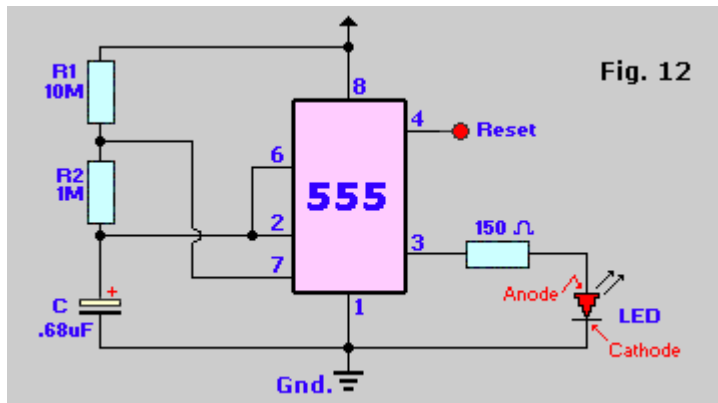
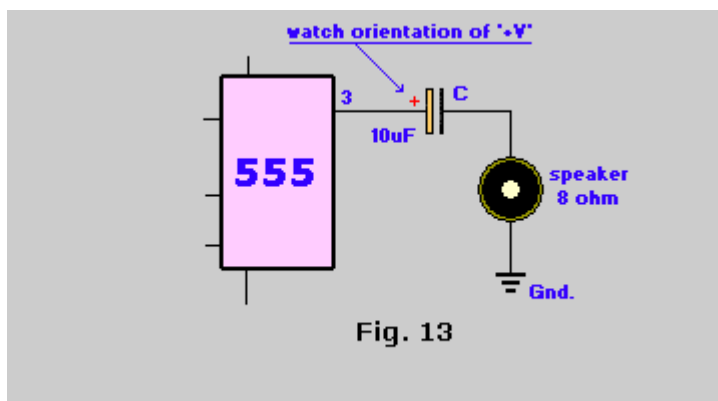

Fig. 12
Fig. 13
12. Next you will experiment with astable circuits. First, rewire the circuit it appears as shown in Fig. 12.
17. Rewire the circuit making R1 and R2 10,000 ohms and C equal to 0.1uF. Use the same circuit in Fig. 12. But, replace the LED and its resistor with a speaker and capacitor as shown in Fig. 13.
Fig. 12, Recording Beep: This circuit is used to keep recording of telephone conversations legal. As you may know, doing otherwise without consent of the other party is illegal. The output of IC1 is fed to the 2nd 555's pin 3 and made audible via C2 and the speaker. Any 8-ohm speaker will do.
Fig. 13, Coin Toss: Electronic 'Heads-or-tails' coin toss circuit. Basically a **Yes** or **No** decision maker when you can't make up your mind yourself. The 555 is wired as a Astable Oscillator, driving in turn, via pin 3, the **7473** flip-flop. When you press S1 it randomly selects the 'Heads' or 'Tails' led. The leds flashrate is about 2Khz (kilo-Hertz), which is much faster than your eyes can follow, so initially it appears that both leds are 'ON'. As soon as the switch is released only one led will be lit.